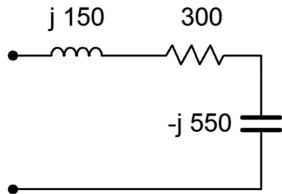

Figure 2.4
- 7. Determine the impedance of the circuit of Figure 2.4.
8. In the circuit of Figure 2.4, if the input frequency is 100 Hz, what is the value of the inductor, in mH?
9. In the circuit of Figure 2.4, if the input frequency is 200 Hz, what is the value of the capacitor, in μF ?